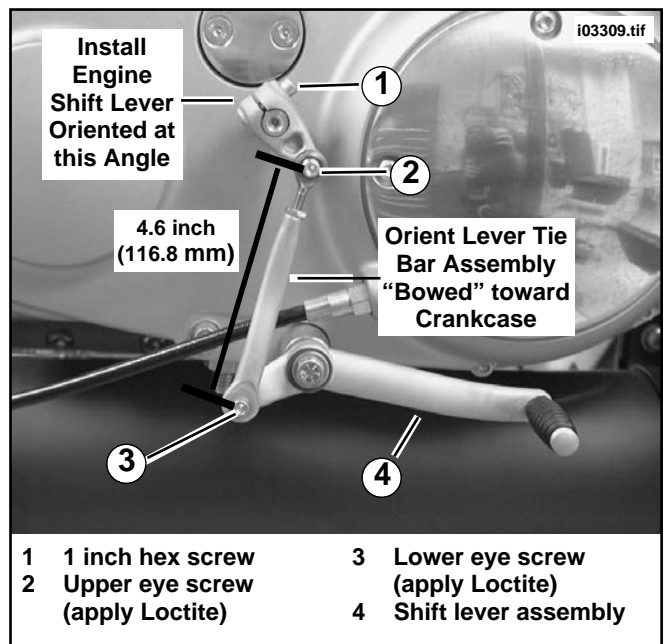

Figure 5. Shifter Kit (Assembled) (M2 Cyclone Shown)
7. Obtain engine shift lever (part number T0225.02A8). Apply Loctite 243 (blue) to 1.25 inch screw (part number AN1009.2CXZB) and install engine shift lever to shifter shaft. Refer to Figure 5. Tighten screw to 59-66 **in-lbs** (6.7-7.5 Nm).
10. See Figure 5. Obtain shift lever tie bar assembly (part number N0617.01A1A) and orient "bowed" toward crankcase as shown. Apply LOCTITE THREADLOCKER 243 (Blue) to threads of upper eye screw (part number AN1006.2XCZB) and install upper eye of lever tie bar to engine shift lever. Tighten screw to 39-60 **in-lbs** (4.4-6.7 Nm).